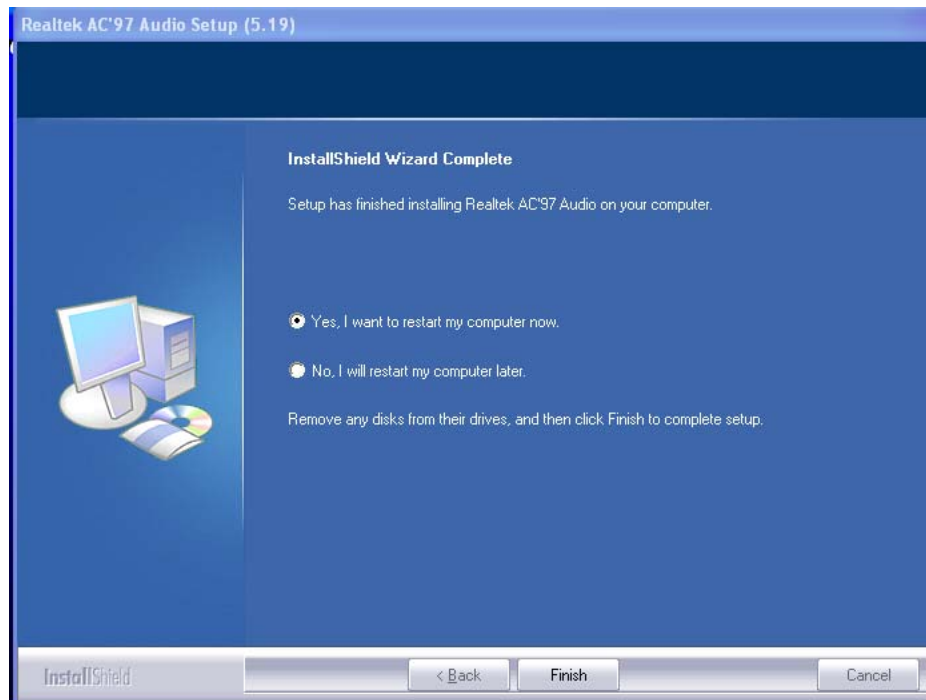

Figure 7-19: AC'97 Driver Installation Complete
Step 10: When the driver is installed, the driver installation finish screen in **Figure 7-19** appears.